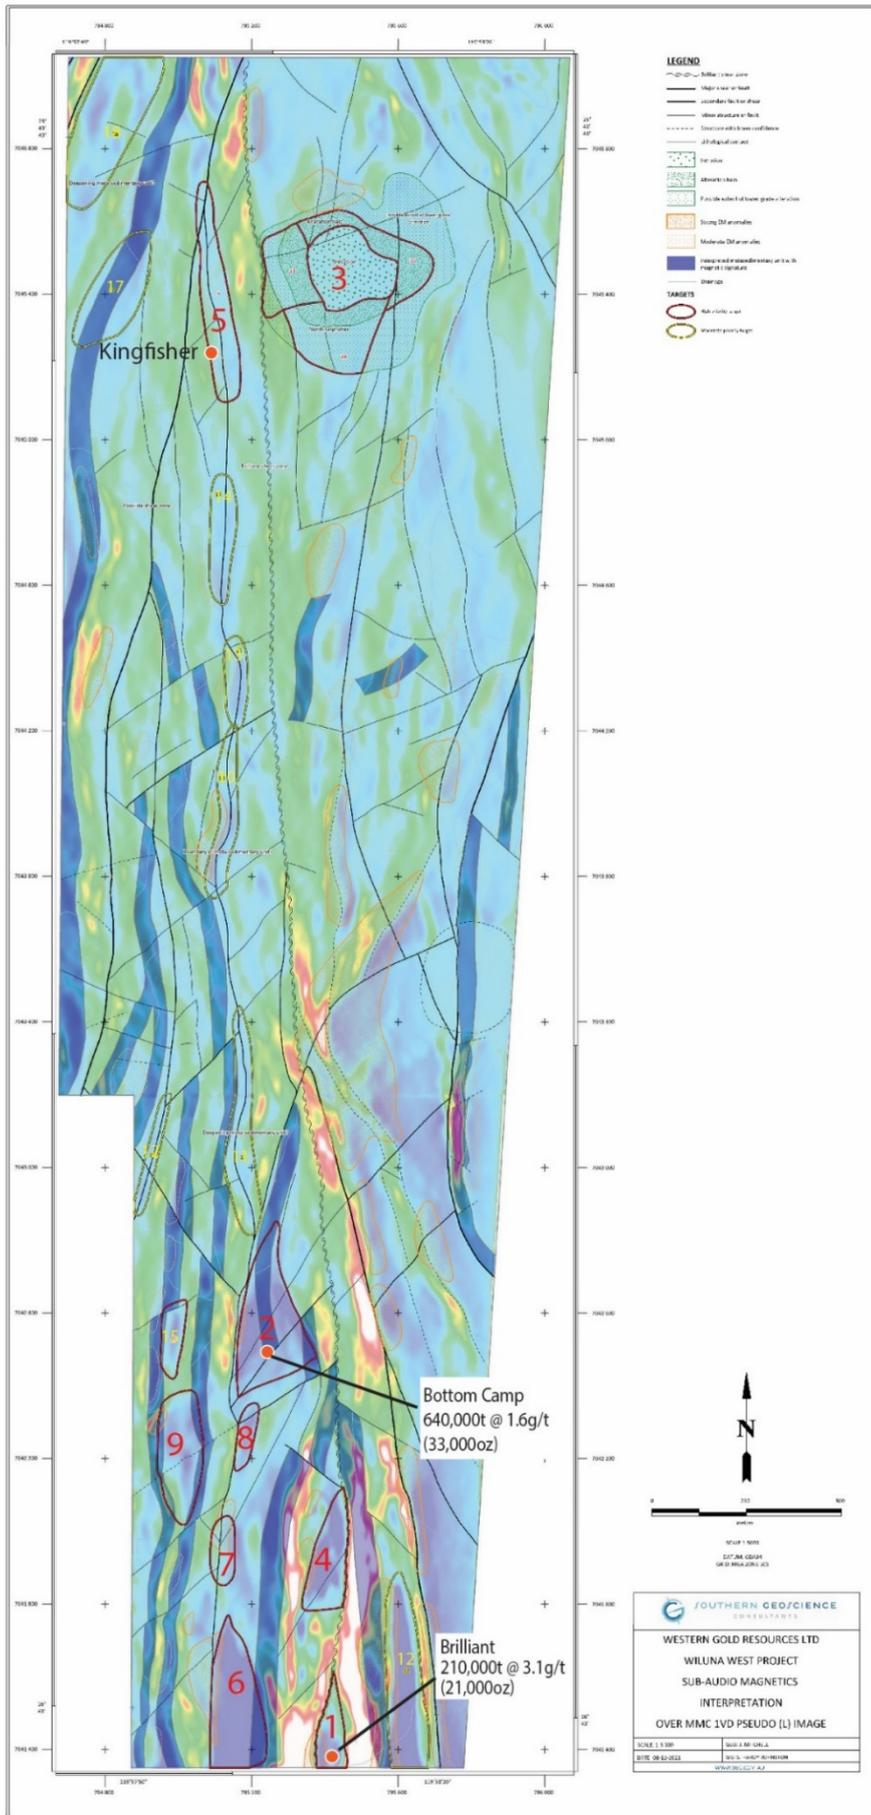

Figure 2. SAM Interpretation over MMC 1VD Pseudo (L) Image
Nine (9) high-priority target areas and 9 lower priority targets have been identified and ranked from the SAM results, geochemical datasets, and geological understanding of the area. These are shown in Figure 2 and summarised in Table 1.